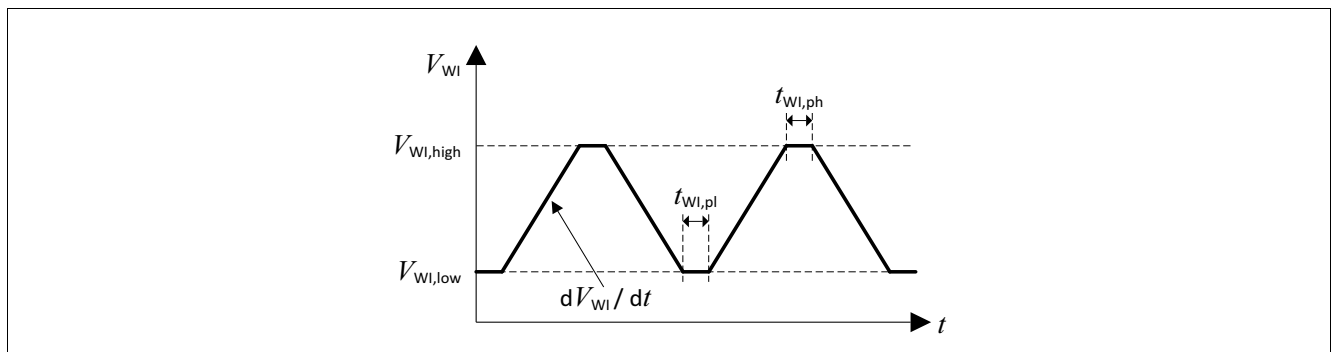

Figure 10 Test Pulses Watchdog Input WI
The watchdog is triggered by a falling edge at the watchdog input pin “WI”. The amplitude and slope of this signal has to comply with the specification (Table “Watchdog Input WI” on Page 29). For details regarding test pulses, see Figure 10 “Test Pulses Watchdog Input WI” on Page 28.
- 2) For details on applied test pulse, see Figure 10